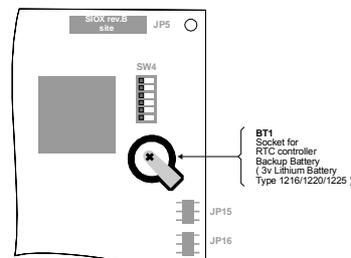

Fig.2-26. RTC controller power backup battery socket at *TORNADO-E64xx* board.
*TORNADO-E64xx* DSP controllers provide on-board BT1 socket (fig.2-26, fig.2-2c and A-1c) for external RTC power backup battery, which is used to automatically write protect internal RTC contents and keep real-time clock running in case on-board +5v power will get out of tolerance.
- *TORNADO-E64xx*: if required, install or change RTC controller power backup battery in BT1 on-board socket in order to ensure that RTC controller has valid backup power and real-time clock is running (refer to section 2.8 and fig.2-26)